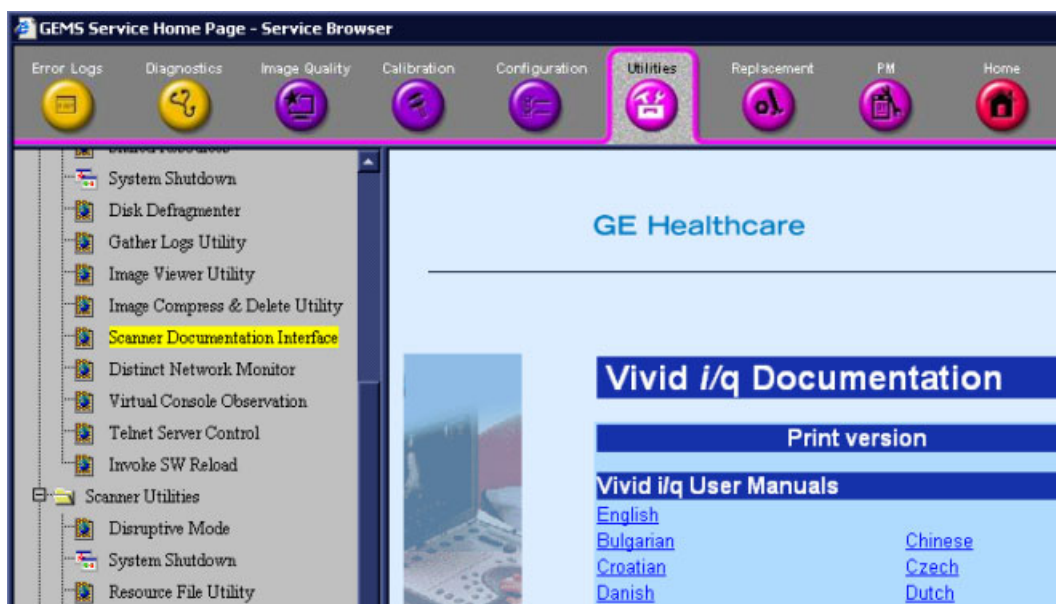

Figure 7-134 Scanner Documentation Interface
- **Scanner Documentation Interface** - enables the system to read a DOC CD if present in a CD-DVD device - Figure 7-134.